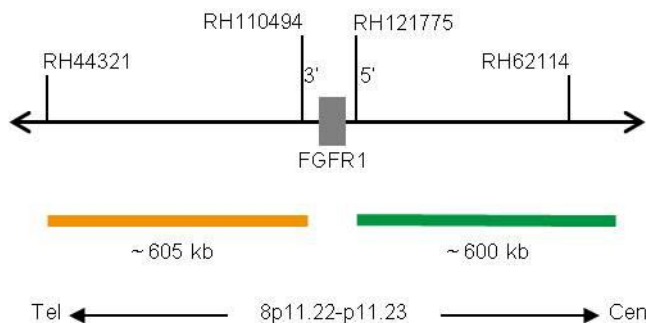

Fig. 1: SPEC FGFR1 Probe map (not to scale)
- ZyGreen (excitation 503 nm/emission 528 nm) labeled polynucleotides (~10.0 ng/μl), which target sequences mapping in 8p11.22* (chr8:38,352,117-38,951,783) proximal to the FGFR1 breakpoint region (see Fig. 1).
- ZyOrange (excitation 547 nm/emission 572 nm) labeled polynucleotides (~4.5 ng/μl), which target sequences mapping in 8p11.23* (chr8:37,635,912-38,239,669) distal to the FGFR1 breakpoint region (see Fig. 1).